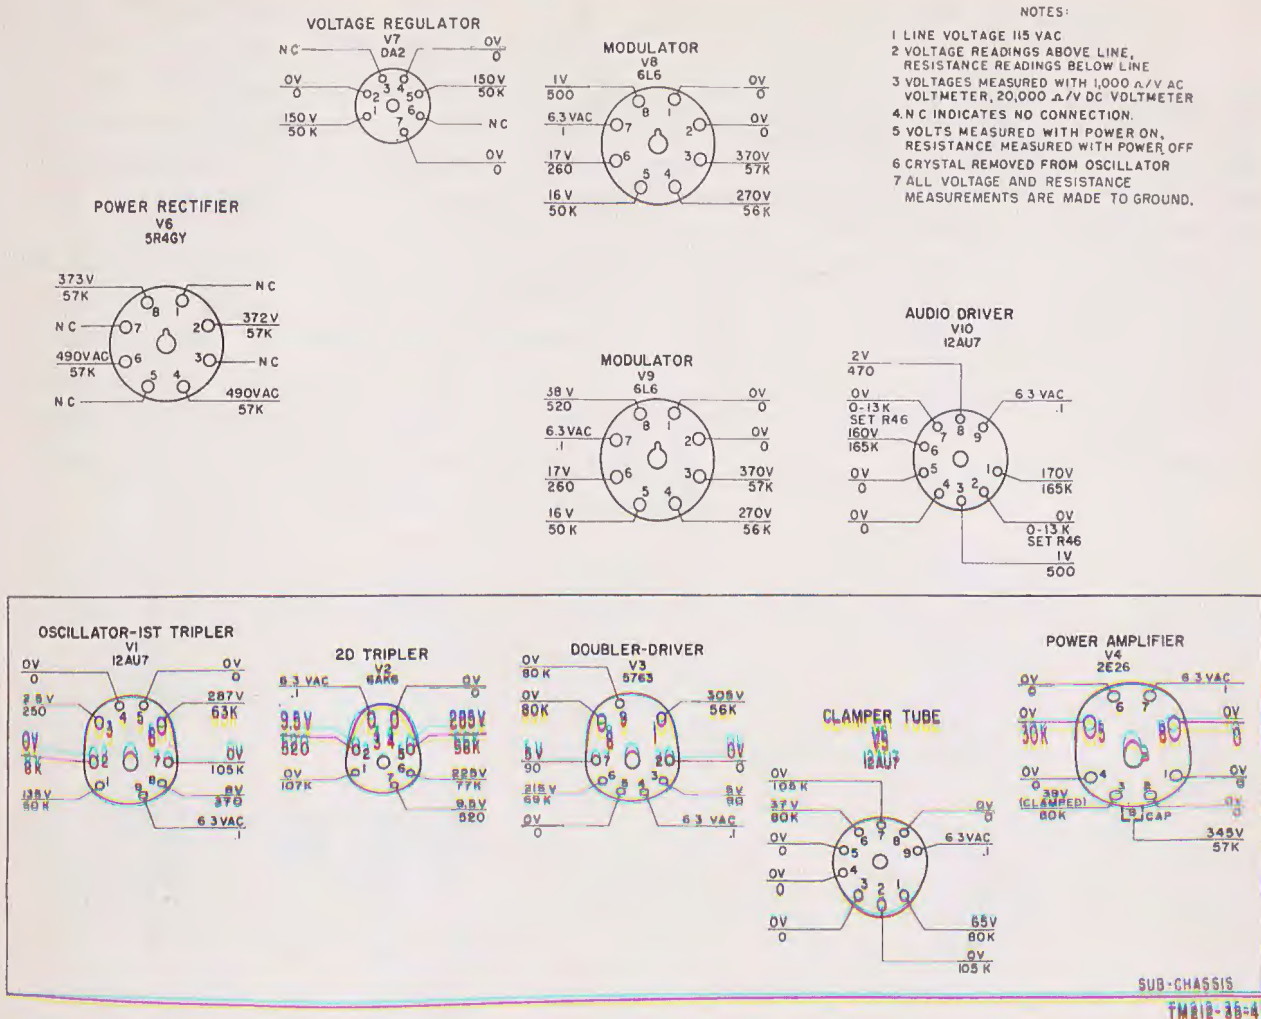

Figure 44. Radio Transmitter T-593(*)/TRC-47, Tube socket voltage and resistance.
c. Take voltage measurements at the tube sockets (fig. 44) and other points related to the stage in question.
d. If voltage readings are abnormal, take resistance readings (fig. 44) to isolate open or short circuits. Refer also to the dc resistance of transformers and coils (par. 57).